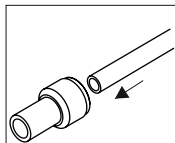

fig. 4
- 1) Push the tubing into the quick connector (properly mounted tubing embeds 1,5 cm into the quick connector) (fig. 4).